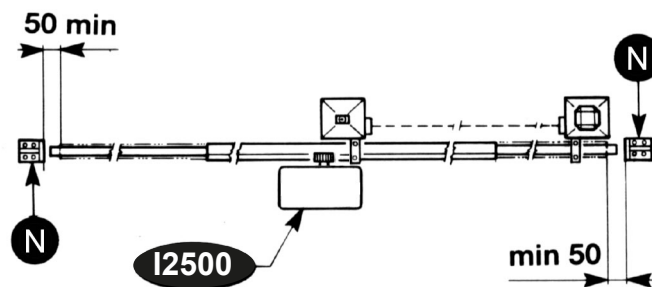

FIG. 2
- Besides the electrical or mechanical limit switches available on the operators, there must be, on both ends of the installation, a fixed mechanical stopper which stop the gate in the unlikely event of ill functioning of limit switches on the operators. For this reason the fixed mechanical stopper must be of an adequate size to withstand the static and kinetic forces generated by the gate (N) (Fig.2). The guide must be provided with two mechanical stops at its ends (N) (Fig. 2).